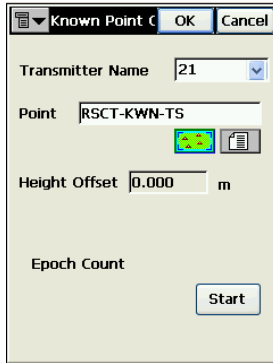

Figure A-9. Select Rover's Point and Begin Averaging
2. Select the Rover's known point using the **map** or **list** buttons and tap **Start** (Figure A-9).